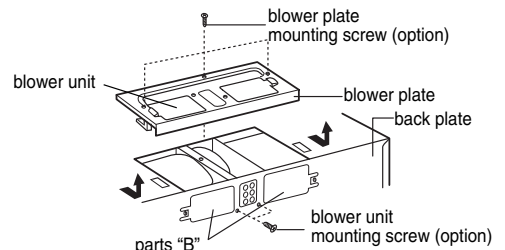

Figure 19
1. Remove one blower unit mounting screw and one or two blower plate screw(s). Remove the blower plate from cabinet. See Figure 19.